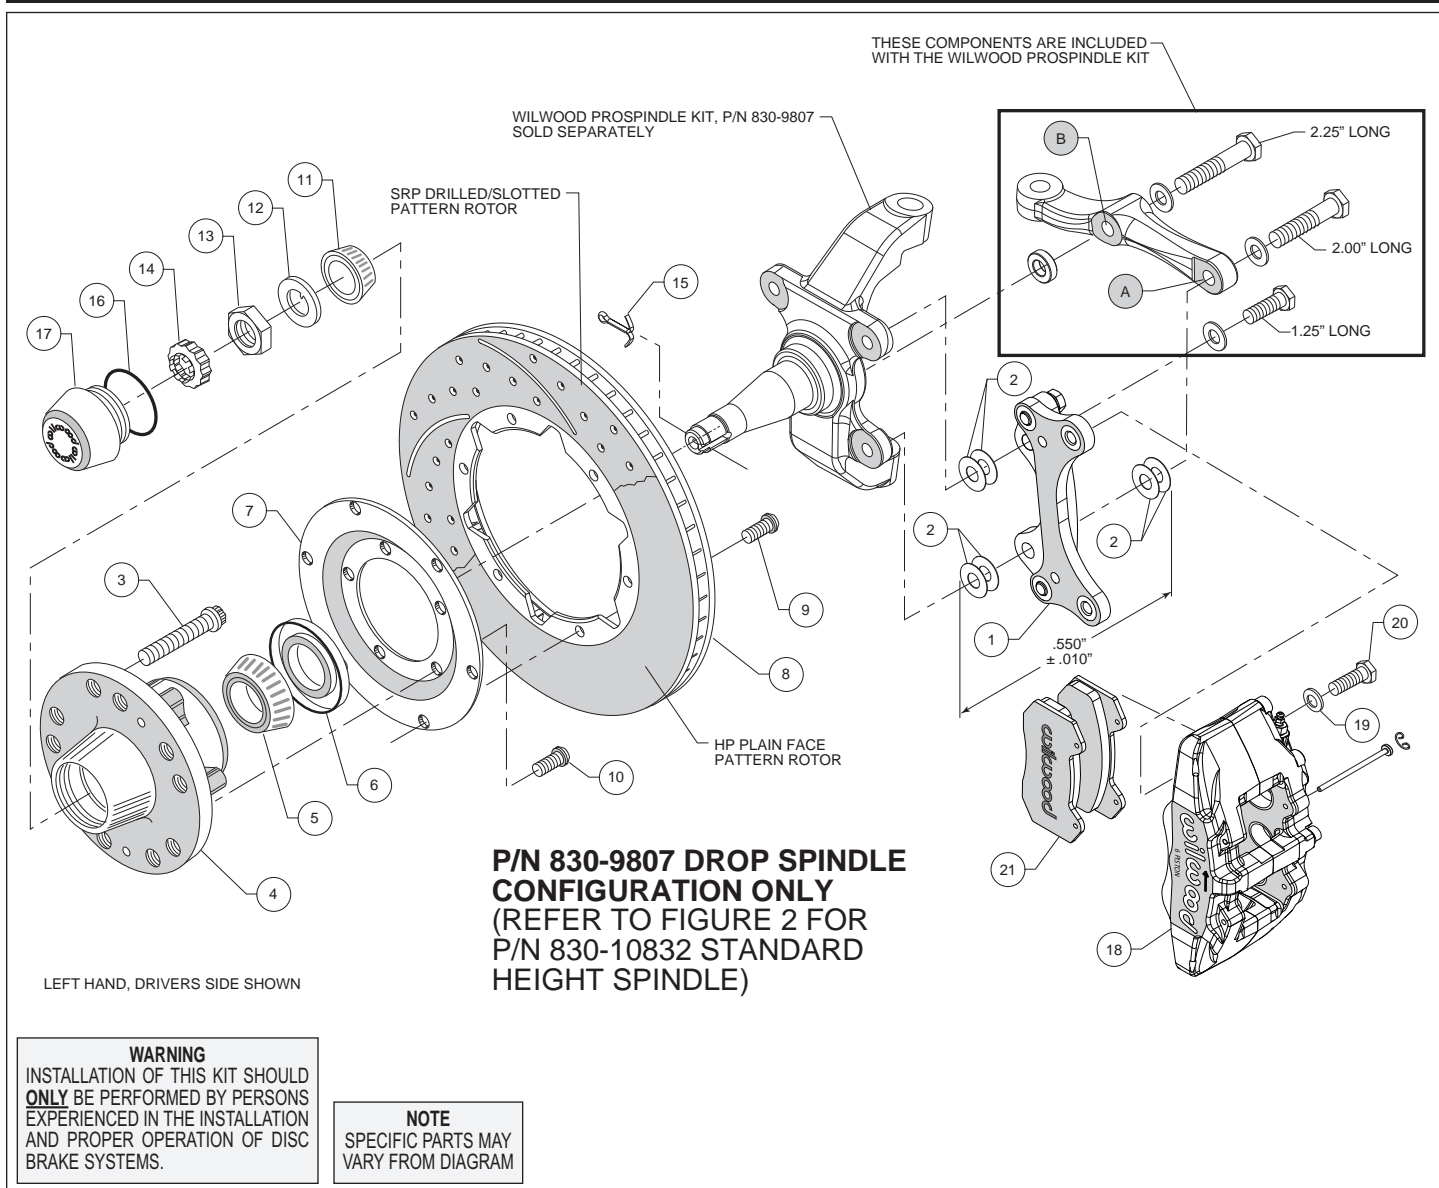
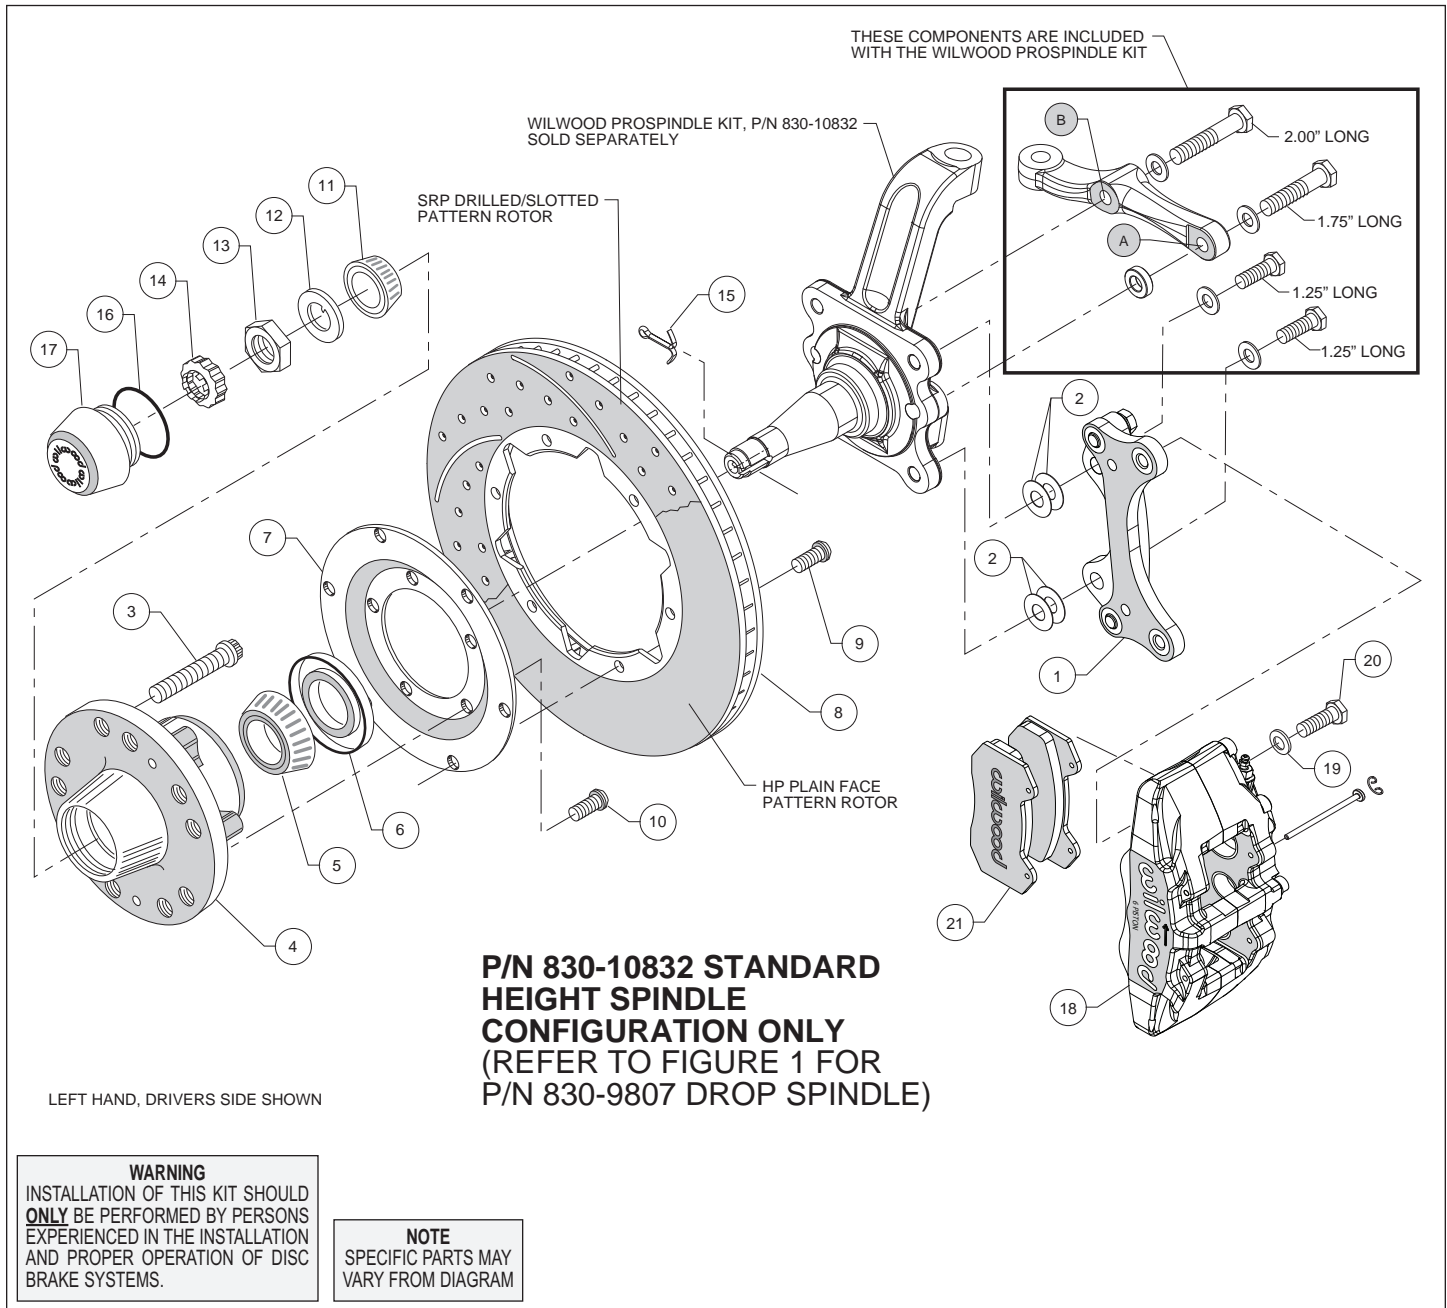

Figure 1. Installation Configuration For Drop Spindle, P/N 830-9807
Figure 2. Installation Configuration For Standard Height Spindle, P/N 830-10832
Assembly Instructions (numbers in parenthesis refer to the parts list and Figures 1 and 2 on the preceding pages):
•**NOTE:** Each Wilwood ProSpindle kit includes bolts, washers, and a spacer to mount the steering arm and caliper bracket. The various bolts are identified by length in the following instructions and in Figures 1 and 2.
- Orient the bracket as shown in Figure 1 and Photo 1. Install at top spindle hole using 1.25" long bolt and .06" thick washer (from ProSpindle kit), and two .016" thick shims (2) between the bracket and spindle, Figure 1.
- Orient the steering arm, and identify the hole marked 'A', as shown in Figure 1. Install at bottom spindle hole using 2.00" long bolt, .06" thick washer (from ProSpindle kit), two .016" thick shims (2) between the steering arm and the bracket, and another two more .016" thick shims (2) between the bracket and spindle, Figure 1. The bracket is located between the steering arm and spindle. **NOTE:** The bracket and shim washers must add up to a total thickness of .550" ± .010", Figure 1.
- Finish attaching the steering arm through the hole marked 'B', as shown in Figure 1. Install using 2.25" long bolt, .06" thick washer, and .25" thick spacer (all from ProSpindle kit), Figure 1.
- Orient the bracket as shown in Figure 2 and Photo 2. Install using 1.25" long bolts and .06" thick washers (from ProSpindle kit), and two .016" thick shims (2) on each bolt between the bracket and spindle, Figure 2. Temporarily tighten mounting bolts. **NOTE:** *The bracket must fit squarely against the mounting points on the spindle.* Inspect for interference from casting irregularities, machining ridges, burrs, etc. Later, after the caliper alignment has been checked, the mount bolts will be secured using red *Loctite*[®] 271.
- Orient the steering arm, and identify the hole marked 'A', as shown in Figure 2. Install using 1.75" long bolt, .06" thick washer, and .30" thick spacer (all from ProSpindle kit), Figure 2.
- Finish attaching the steering arm through the hole marked 'B', as shown in Figure 2. Install using 2.00" long bolt and .06" thick washer (from ProSpindle kit), Figure 2.
- Install wheel studs (3) into the hub (4), Photo 3. Torque to 77 ft-lb. **NOTE:** *There are two lug patterns of five holes each in the hub (5 x 4.50 and 5 x 4.75).* Make sure of the correct hole pattern for the wheel application before installing the studs into the hub.
- Pack the large inner bearing cone (5) with high temperature disc brake bearing grease (available from your local auto parts store) and install into the backside of the hub (4), Photo 4.
- Install the grease seal (6) by pressing into the backside of the hub (4), flush with the end of the hub, Photo 4.
- Orient the rotor (8) and the rotor adapter (7) as shown in Figure 1 or 2 and Photo 5. Attach the rotor to the adapter using bolts (9). Using an alternating sequence, apply red *Loctite*[®] 271 to the threads, and torque to 25 ft-lb.
- Mount the adapter/rotor assembly (7 and 8) to the hub (4) using bolts (10), as shown in Figure 1 or 2 and Photo 6. Using an alternating sequence, apply red *Loctite*[®] 271 to the threads, and torque to 45 ft-lb.
- Pack the small outer bearing cone (11) with high temperature disc brake bearing grease and install into front of hub (4). Slide the hub assembly onto the spindle. Secure using spindle washer (12) and spindle nut (13), Photo 7. Bearing adjustment: Tighten the nut while turning the hub. When there is a slight bind on the bearings, they are seated correctly. Back the nut off about 1/6 to 1/4 of a turn, or sufficiently to allow .001" to .007" end play. **WARNING:** *Failure to back off adjusting nut could cause bearing to run hot and be*
- Screw dust cap (17) into hub (4), Photo 8. Friction created by the o-ring (16) on the dust cap keeps it from unscrewing.
- NOTE:** Please reference the caution statement at the beginning of the assembly instructions. This kit contains distinct right and left hand calipers that must be mounted in a specific direction, as described below. Mount the caliper (18) onto the caliper bracket (1) using washers (19), and bolts (20) as shown in Figure 1 or 2. Ensure that the caliper is mounted so the largest pistons are at the rotor exit end of the caliper, in relation to the direction of rotor rotation. Temporarily tighten the mounting bolts and view the rotor (8) through the top opening of the caliper (18). The rotor should be centered in the caliper, Photo 9. If not, proceed as follows:
- Adjust by adding or subtracting shims (2) between the bracket and the spindle. Always use the same amount of shims on each of the two bolts between bracket and spindle.
- For the lower bracket mount bolt, if a shim was added between the bracket and spindle, then a shim must be removed between the steering arm and bracket, such that the total thickness of bracket and shims remain equal to $.550 \pm .010$ ", Figure 1.